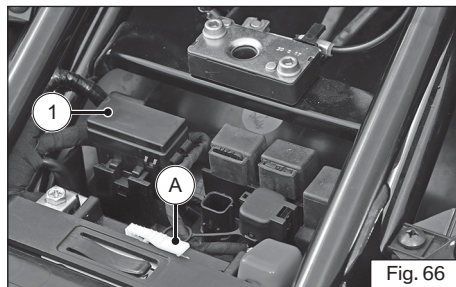

Fig. 66
- ♦ Press the lock and open the fuse box cover (1) (ref. Fig. 66).